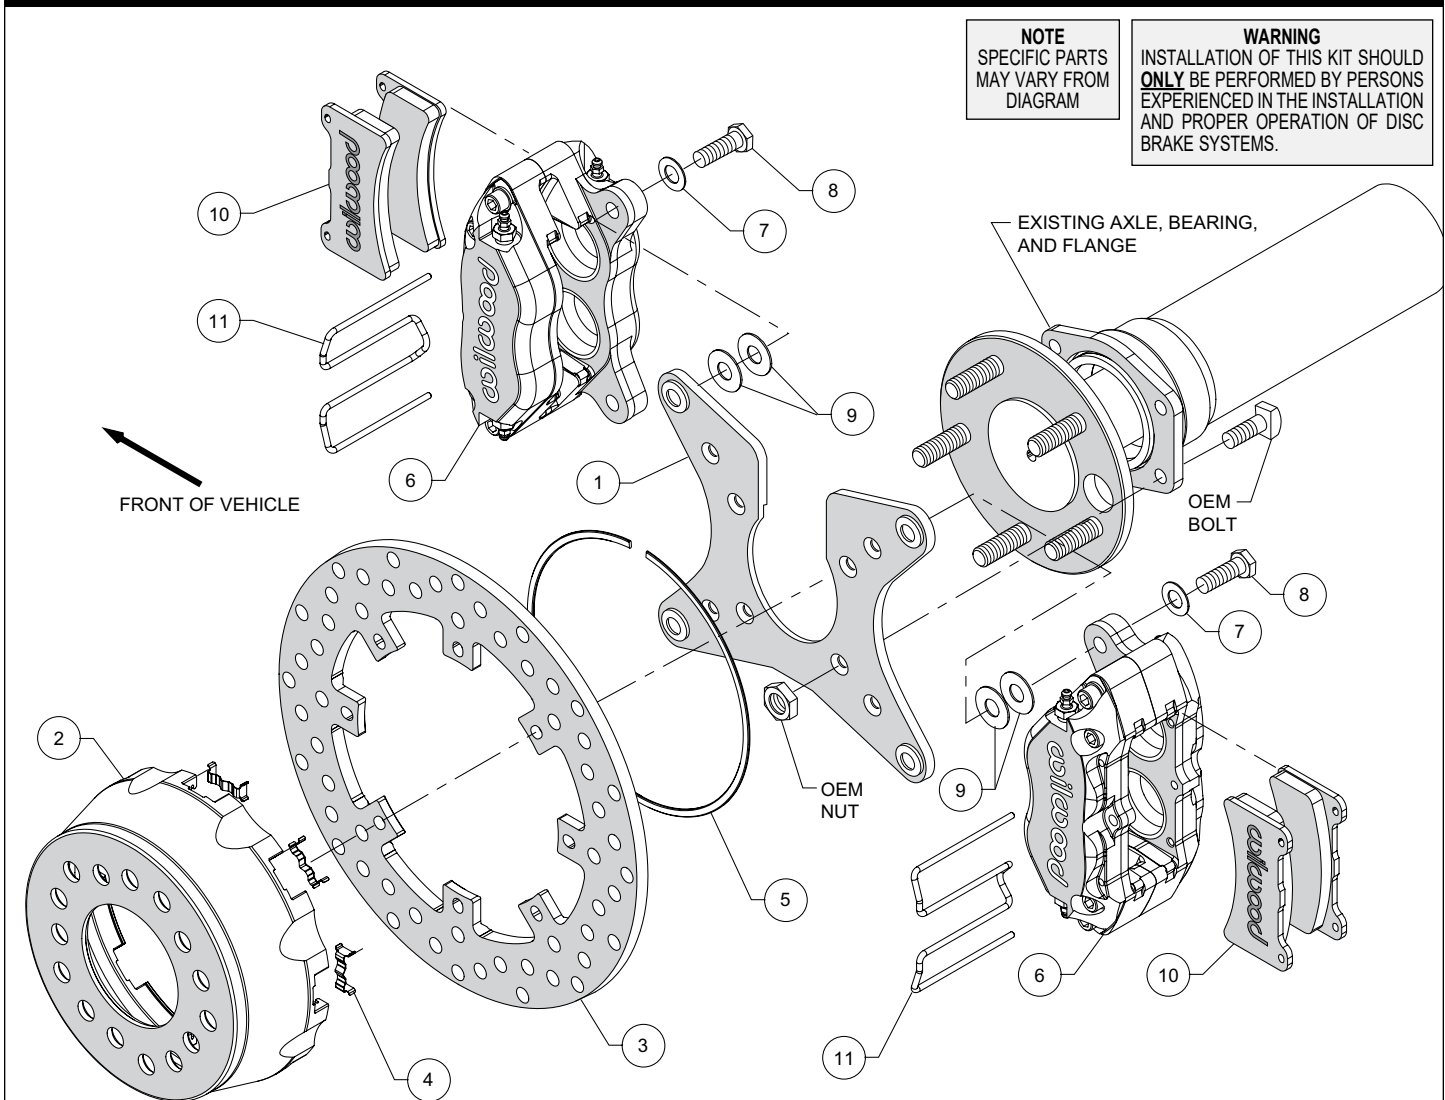
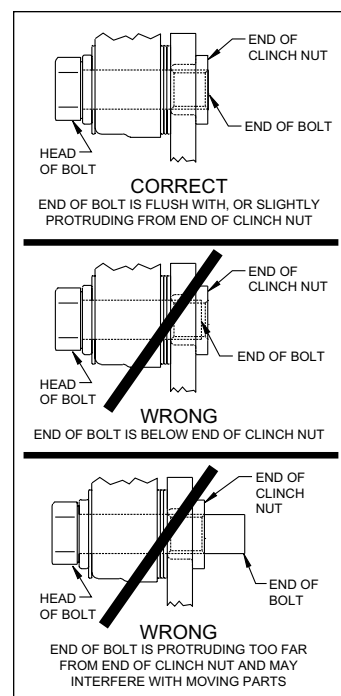

Figure 1. Typical Installation Configuration
Figure 5. Clinch Nut Engagement Diagram
Assembly Instructions (numbers in parenthesis refer to the parts list and Figure 1 on the preceding pages): **CAUTION:** All mounting bolts must fully engage clinch nuts. Be sure to check that all bolts are either flush or protruding through flanged side of clinch nut after shimming, Figure 5.
- Install the caliper mounting bracket (1), with the slot for the axle pointing upward, to the housing flange using the OEM bolts and nuts, as shown in Figure 1 and Photo 1. Ensure that the caliper mounting ears on the bracket are oriented fore and aft on the car, with the heads of the clinch nuts facing outboard, Photo 1. Apply red *Loctite*® 271 to the OEM bolt threads and torque to OEM specifications.
- Insert the dynamic mount wear plates (4) into the slots in the hat (2) making sure the tabs snap in place, Photo 2. Orient the rotor (3) as shown in Figure 1 and Photo 3, with the flush mount tab side facing the hat. Attach the rotor to the hat using snap ring (5) by pushing down on the rotor and installing the ring into the groove in the hat, as shown in Photo 4. Ensure that the ring is fully engaged in the groove.
- Align the correct hole pattern in the hat (2) with the axle stud pattern and slide the hat/rotor assembly onto the axle hub. **NOTE:** The hat must fit flush against the axle flange or excessive rotor run out may result. Install three lug nuts (finger tight) to keep the hat/rotor in place while continuing with the installation. **NOTE:** Some OEM and aftermarket axles come with stud sizes larger than 0.50" diameter. Verify stud size, and if necessary, have a qualified machine shop drill the hats to the correct size.
- NOTE:** Please reference the caution statement at the beginning of the assembly instructions. Mount one caliper (6) onto the mounting bracket (1) using bolts (8) and washers (7), as shown in Figure 1. Initially place two .035" thick shims (9) on each bolt between the caliper and the bracket, Photo 5. Temporarily tighten the mounting bolts and view the rotor (3) through the top opening of caliper. The rotor should be centered in the caliper, Photo 6. If not, adjust the caliper by adding or subtracting shims between the bracket and the caliper. Always use the same amount of shims on each of the two mounting bolts. **NOTE:** The end of each bolt must be flush with or slightly protruding from the head of the clinch nut. If necessary, place spare shims between washer and caliper mounting ear to achieve the proper clinch nut engagement, as shown in Figure 5. Once the caliper